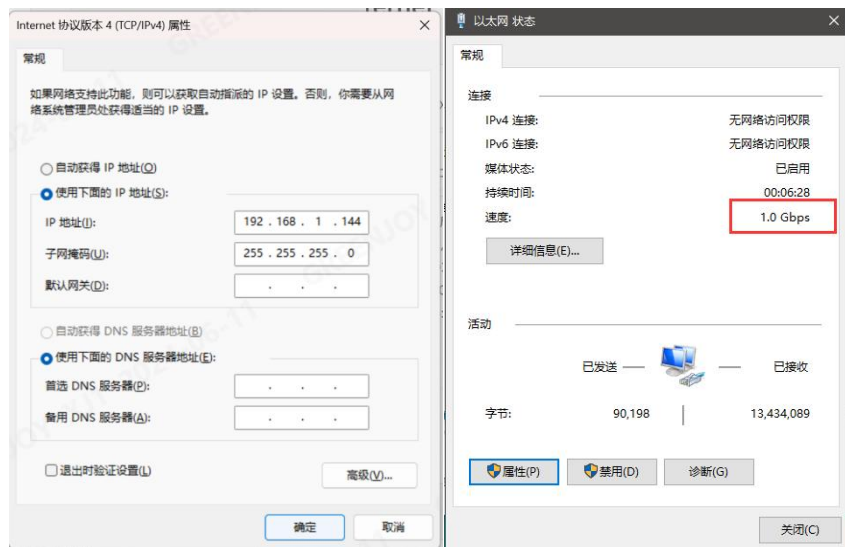

Figure 1
4.1.1. The default factory IP of the sensor of the Rigel 3 is "192.168.1.147", connect the sensor directly to the computer, and then set the computer IP to the same network segment "192.168.1.***" through the TCP/IPv4 attribute of the Ethernet attribute (** is a value other than the sensor IP, as shown in Figure 1). Also pay attention to whether the following is a Gigabit network connection.